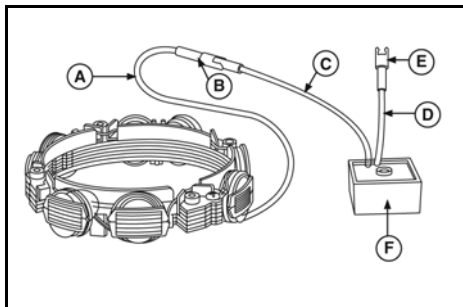

Figure 13
**6. 5/9 Amp DC (Figure 13)**
- One black lead from stator (A)
- Green connector (B)
- Yellow lead (C) to regulator-rectifier (F)
- One lead (D) from regulator-rectifier with red connector (E)